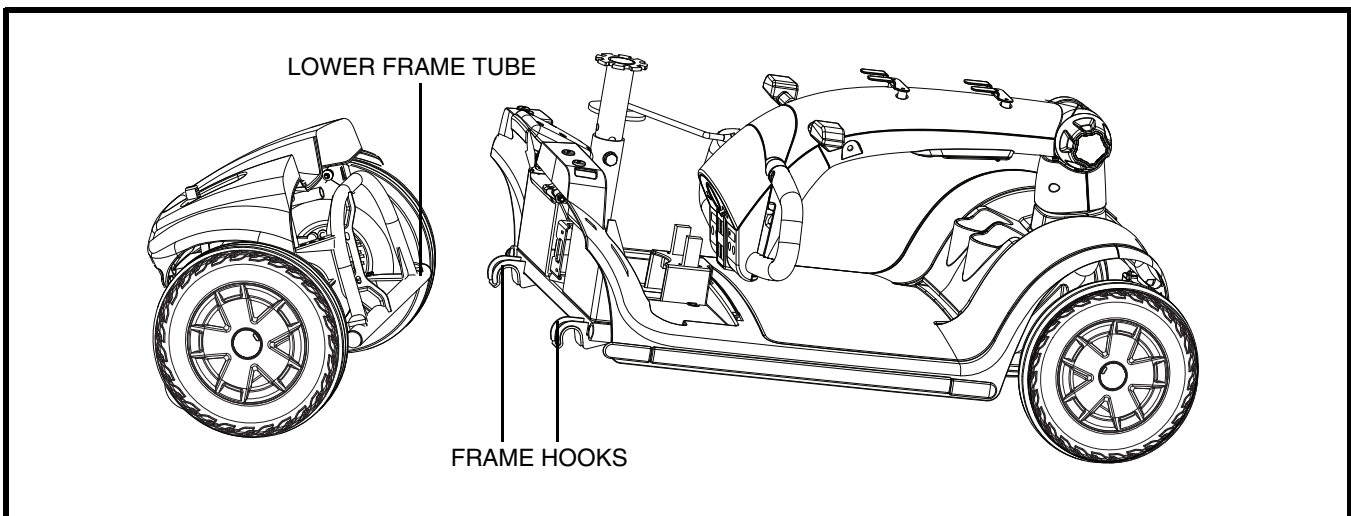

Figure 21. Frame Separation
9. Lift the front section up until the frame hooks of the front section separate from the rear section. See **figure 21**.
10. Slowly separate the two sections. See **figure 21**.
1. Position the front and rear sections of your scooter as shown in **figure 21**.
2. Use the frame release lever to lift the front section as you align the frame hooks of the front section with the lower frame tube of the rear section. See **figure 21**.